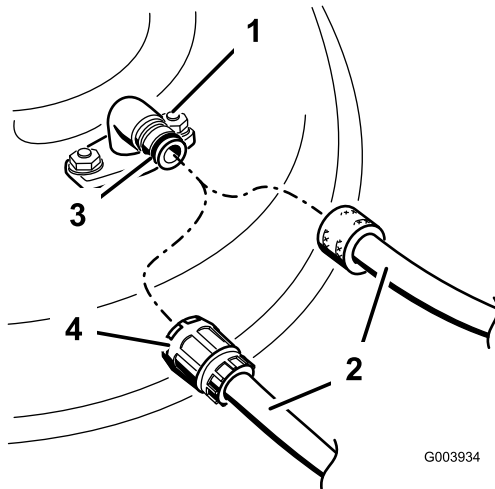

Figure 58
3. Attach the hose coupling to the end of the mower washout fitting, and turn the water on high (Figure 58).